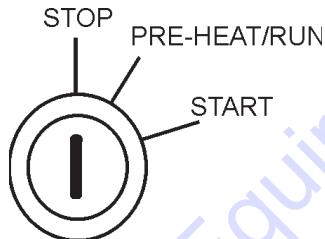

Figure 53. Ignition Switch (Off Position)
4. Place the ignition switch (Figure 53) in the **STOP** position, remove the key and store in a safe place.
2. Turn the ignition switch key to the **STOP** position (Figure 53).